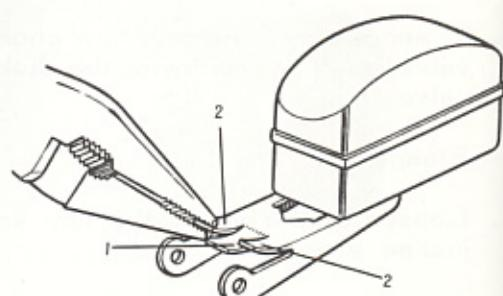

Fig.4-28 Float Tab W4985
To obtain a correct clearance, bend the tab at (1) in figure 4-28.
To obtain correct clearance, bend the float tab at (2) in figure 4-28.